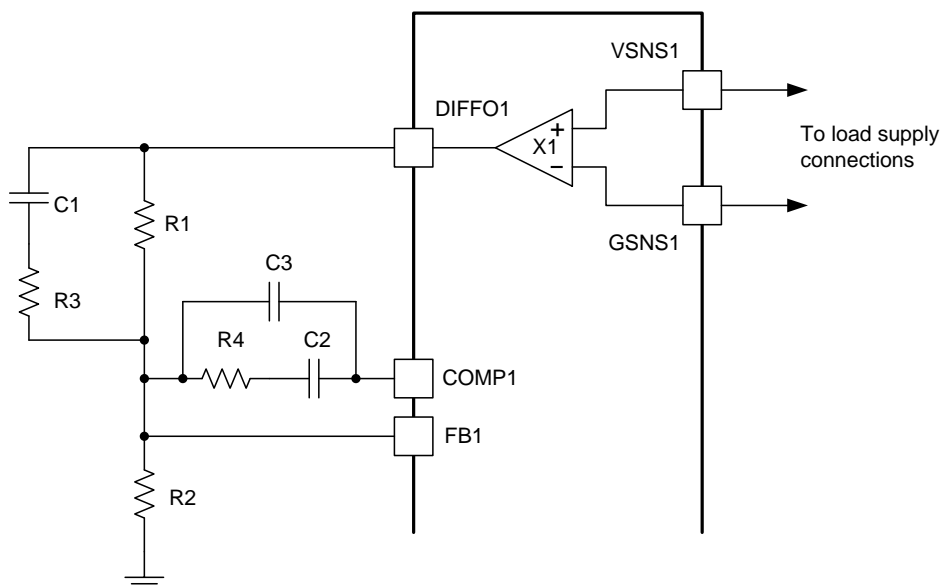

Figure 15. Setting the Output Voltage
Setting the output voltage is very similar to that of a traditional analog controller using a voltage divider from the output to the feedback (FB) pin. The output voltage must be divided to the nominal reference voltage of 600 mV. Figure 15 shows the typical connections for the controller. The voltage at the load is sensed using the unity gain differential voltage sense amplifier. This type of sensing provides better load regulation for output voltages lower than 5-V nominal (see electrical specifications for the maximum output voltage of the differential sense amplifier). For output voltages above this level, connect the output voltage directly to the junction of R1 and C1, leave DIFFO1 open and do not connect the VSNS1 pin to the output voltage. If the design includes a resistor divider before the remote sensing amplifier, the output voltage readout on PMBus is equal to the voltage between VSNS1 and GSNS1.